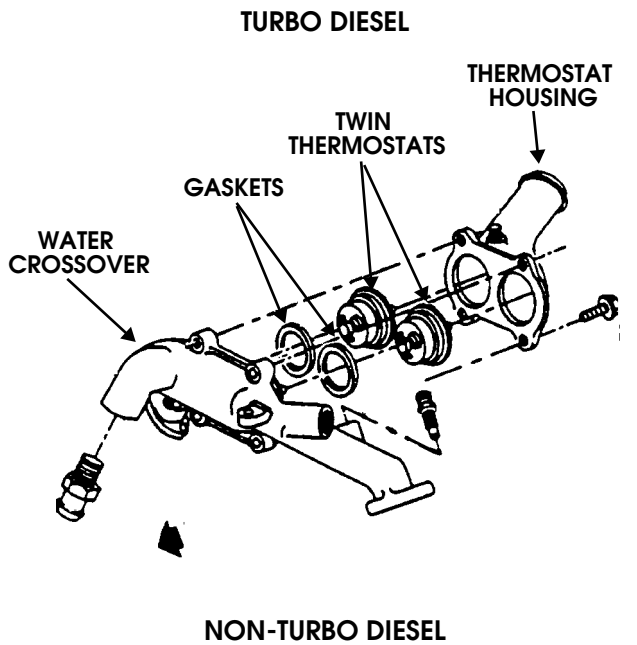

Figure 2-95: Water Crossover Mounting
1. Loosen clamp and disconnect bypass hose at water crossover (Figures 2-95 and 2-96).
2. Remove crossover attaching bolts/studs and remove crossover. Discard crossover gaskets (Figure 2-95).
3. Remove thermostat housing and thermostats if required. Note that turbo diesel has two thermostats (Figure 2-95).